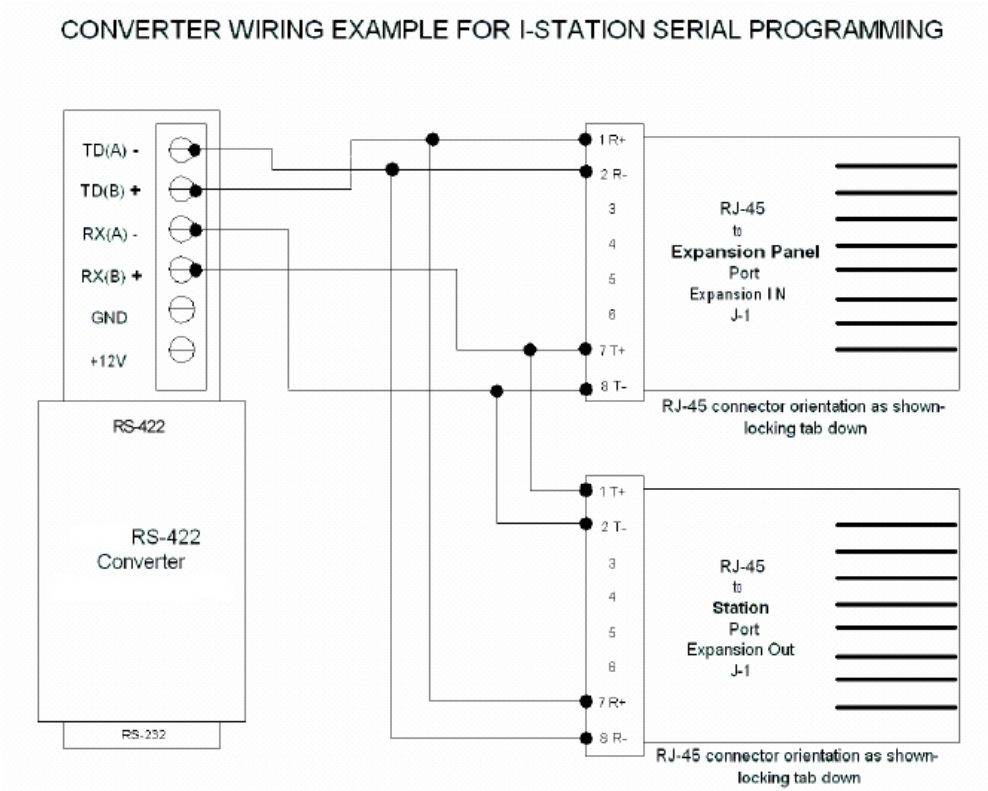

Figure 14-2: Example wiring scheme for i-Station serial programming
**Figure 14-2** shows an example wiring scheme for serial programming an i-Station panel: